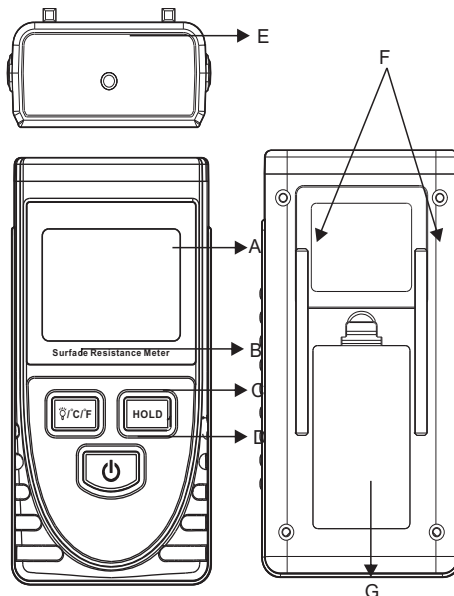

Figure 2
2. Components: see the following figure (Figure 2)